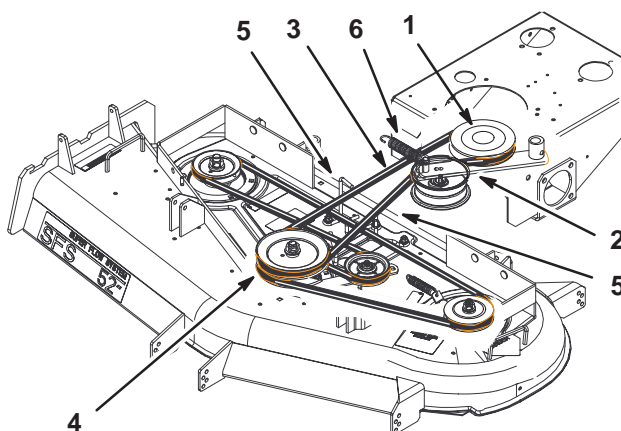

Figure 60
5. Remove the idler spring from idler arm. Remove the drive belt from the PTO engagement pulley and the center spindle pulley (Fig. 60).
6. Remove the worn drive belt (Fig. 60).
7. Install the new drive belt onto the PTO engagement pulley and the top groove of the center spindle pulley (Fig. 60).
8. Install belt onto idler pulley and then install idler spring (Fig. 60).
9. Adjust PTO drive belt guides an 1/8 in. from belt (Fig. 60).